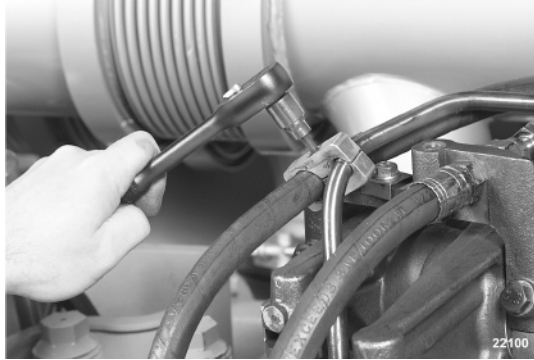

Figure 7.2 *Internal Fuel Line Clamp.*
3. Remove clamp from internal fuel lines using 3/8" ratchet and internal hex socket. (figure 7.2)